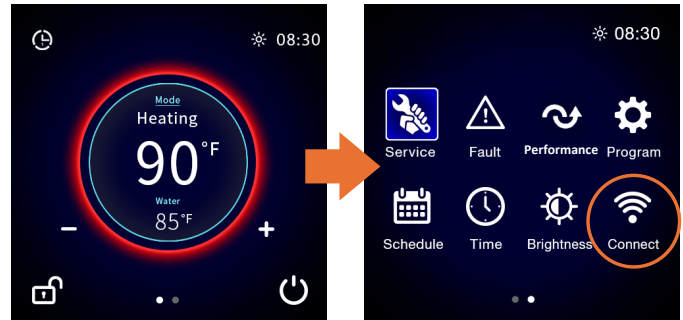

Figure 45. Connect Screen
1. Stand near the display of the Crosswind unit. On the touchscreen, swipe left to access the menu screen, then locate the “Connect” icon. See **Figure 45**.